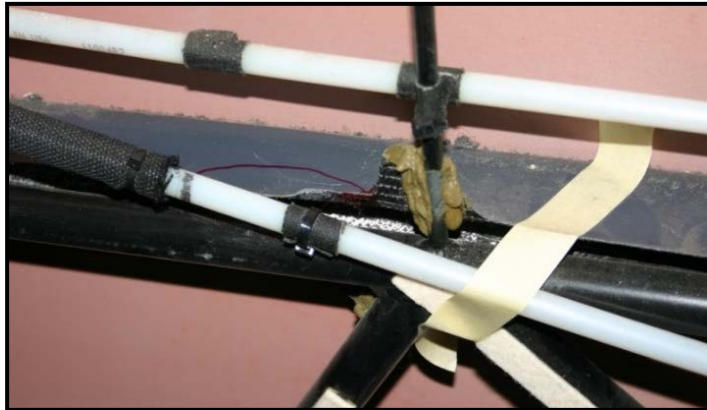
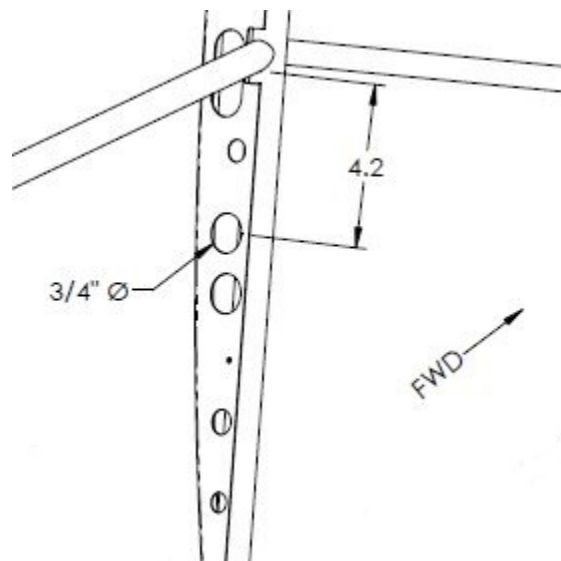

FIGURE 6 – Fuel Line Crosses Stringer
FIGURE 11 – Hole in Boot Cowl Spacer
21. Reroute the LH aft fuel line through the upper 1" hole in the boot cowl spacer (see Figure 11) just below the upper stringer. Temporarily secure with masking tape (see Figure 6). Ensure that the fuel line follows a smooth and straight path from just forward of the lower rear window corner through the boot cowl spacer. The line should be crossing the upper stringer near an upside down "Y" of fuselage tube where the upper stringer is affixed to the frame. Mark the location on the top and bottom flange of the upper stringer.
- 29.** Measure down 4.2" from the fuselage tube above the new fuel line location and drill a 3/4" Ø hole in the boot cowl spacer. Space the hole laterally between the tube and former (see Figure 11). Deburr the hole and remove any metal shavings.